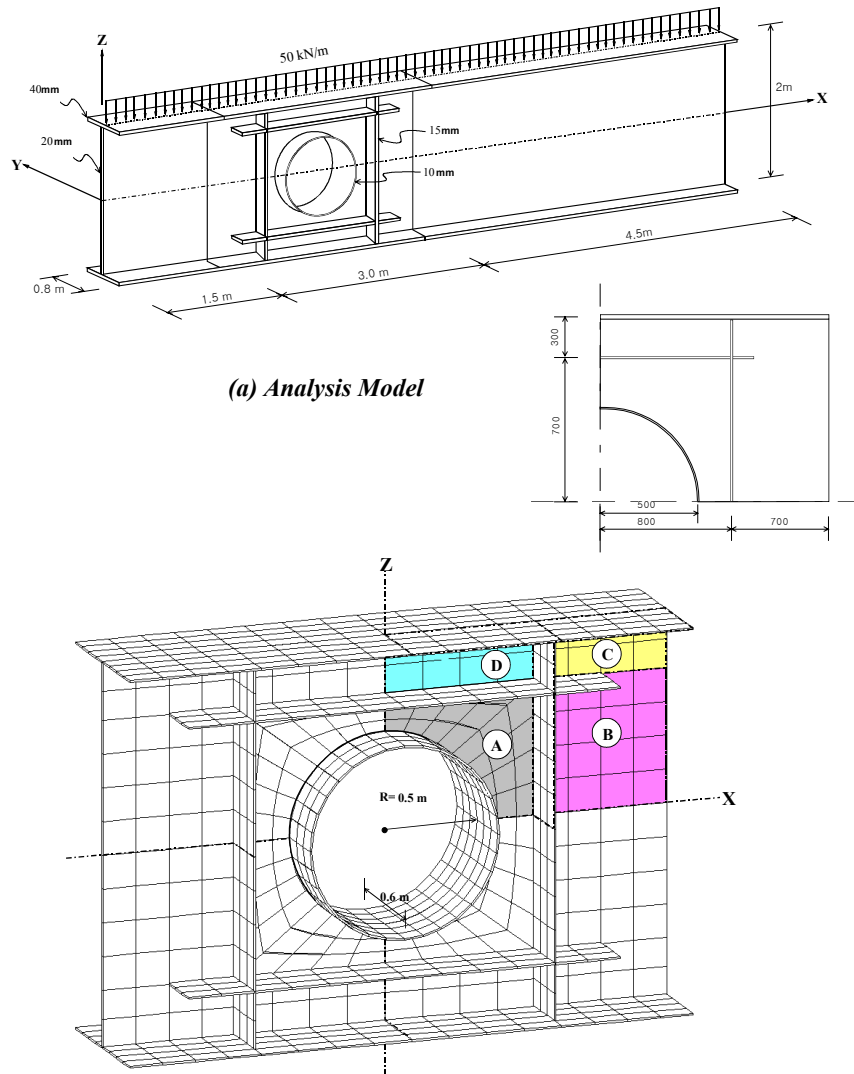

Figure 3.1 Beam Member with a Circular Web-Opening and a Detail Model
The summary and load cases for the structural model are shown in Fig.3.1.
The remaining zone including the circular opening is symmetrical about both axes. Only the upper-right quarter is modeled due to its symmetry (Fig. 3.1–©). The remaining 3 quarters are completed using symmetry copy (*Mirror Elements*).
To create 8 plate elements in area ① of Fig.3.1(c), the lines between nodes 2 and 5 and nodes 4 and 5 are divided into 4 equal spacings.